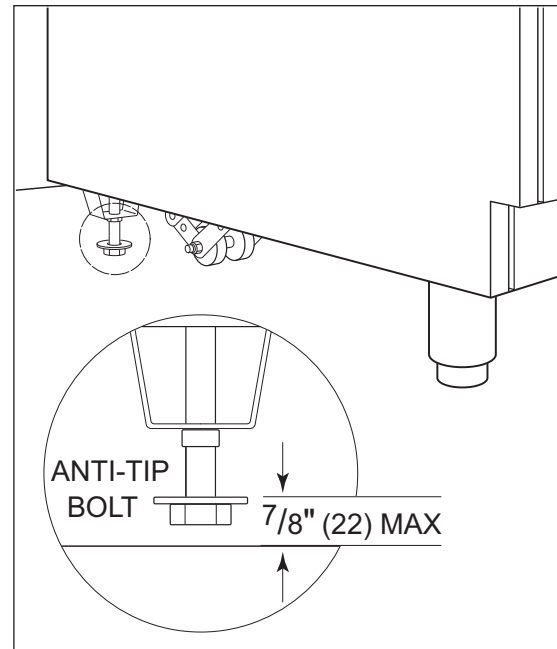

Figure 2-8. Anti-Tip Bolt
Once the anti-tip bracket is secure and the appliance is installed and leveled, adjust the anti-tip bolt so the top of the washer is 7/8" (22) maximum from the floor. Slide the range into the opening and verify the anti-tip bolt is engaged. Refer to Figures 2-8 and 2-9.